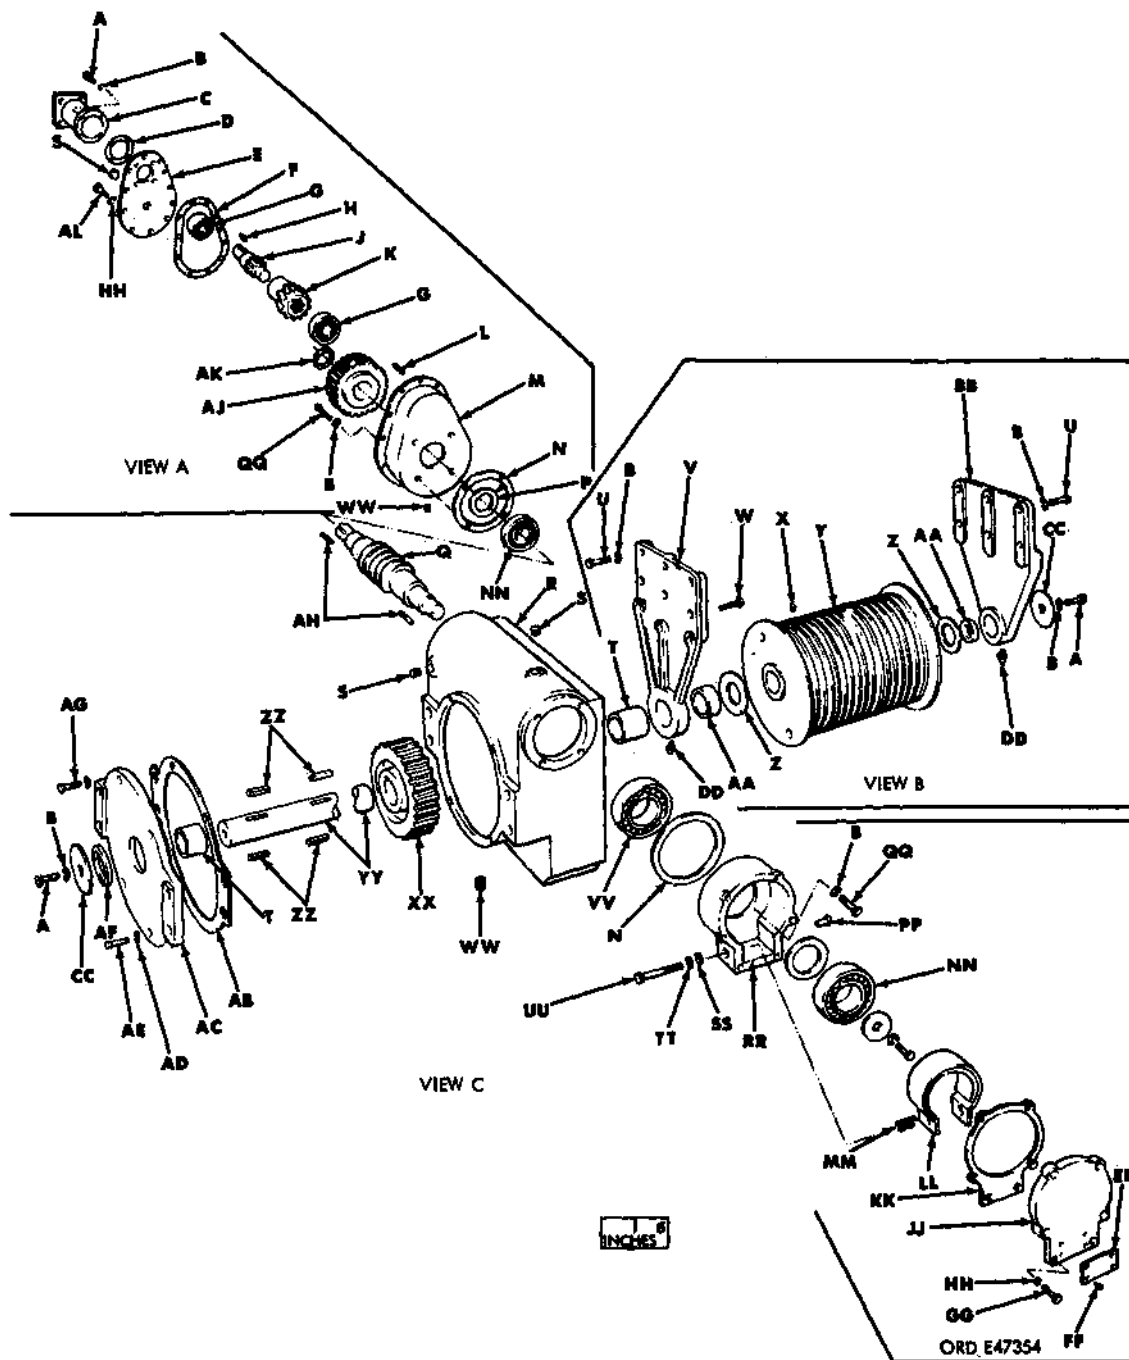

Figure 565. Hoist winch assembly-exploded view.
(1) Assemble hoist worm gearbox as shown in view C, figure 565. Install automatic brakecase assembly (RR, view C, fig. 565), making sure identification marks placed on gearcase and brakecase to aid in proper installation are aligned.
(2) Check worm gear end play between shoulder or worm gear (XX, view C) and bushing (T, view C). If end play is less than 0.005 inch, add sufficient number of cover gaskets (AB, view C) so that end play will be greater than 0.005 inch, but less than 0.015 inch,
(3) Assemble winch drum as shown in view B, figure 565. Shim between support valve (BB, view B) and retaining washer (CC, view B) and allow 1/64-inch running clearance at both ends.
(4) Assemble speed reduction gearbox shown in view A, figure 565.
(5) Adjust automatic brake (refer to TM 9-2320-211-20).